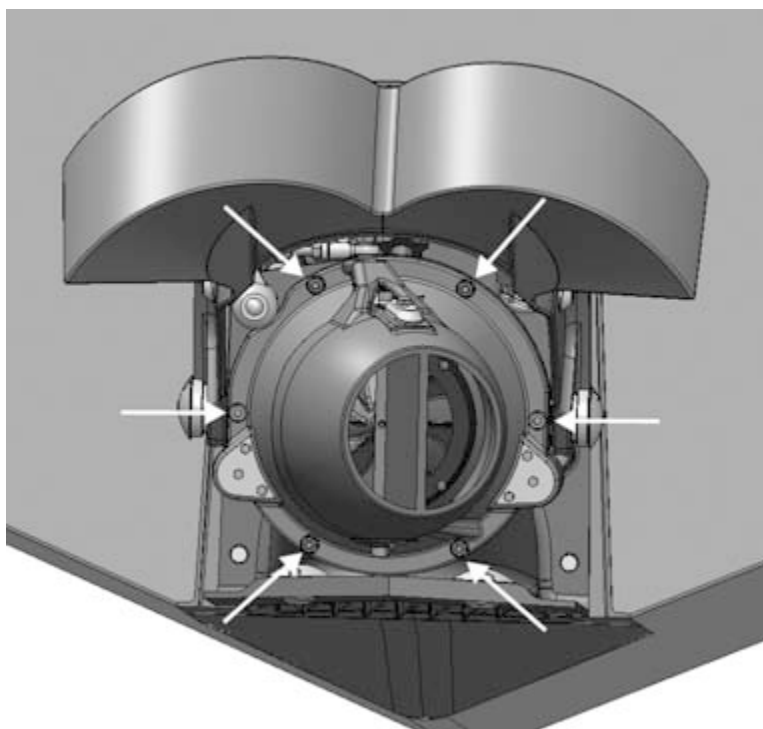

Figure 28. Stator fastening screws
2. Open the six fastening screws of the stator (Figure 28).